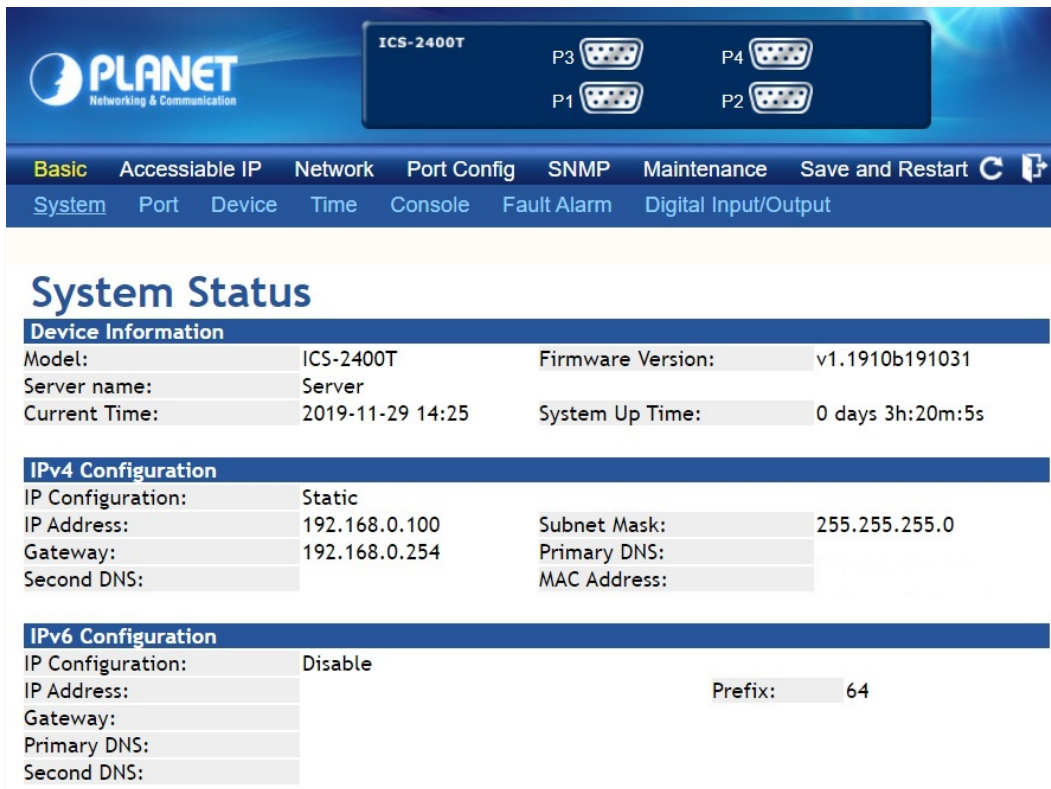

Figure 4-1-3: Web Main Page
3. After a successful login, the main screen appears as shown in Figure 4-1-3 below.